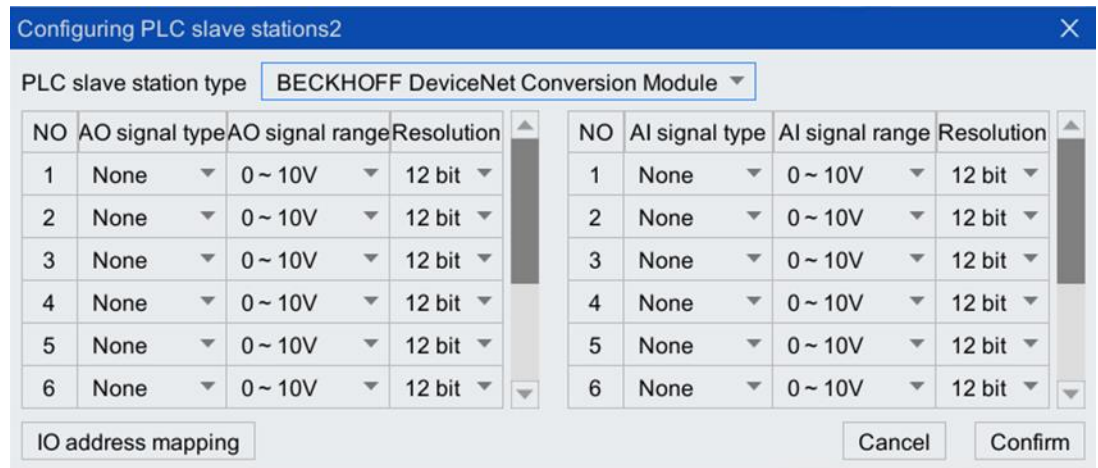

Fig. 2-17 Configuration interface of PLC slave
Step 3. In the pop-up dialog box, select "PLC Slave station Type", as shown in Fig. 2-17. The conversion modules that are related to the welding machine are BECKHOFF DeviceNet conversion module, MFDB (first-generation control cabinet gusset digital welding machine CAN communication, analog welding machine communication) and IEB (second-generation control cabinet gusset CAN communication, analog welding machine communication).